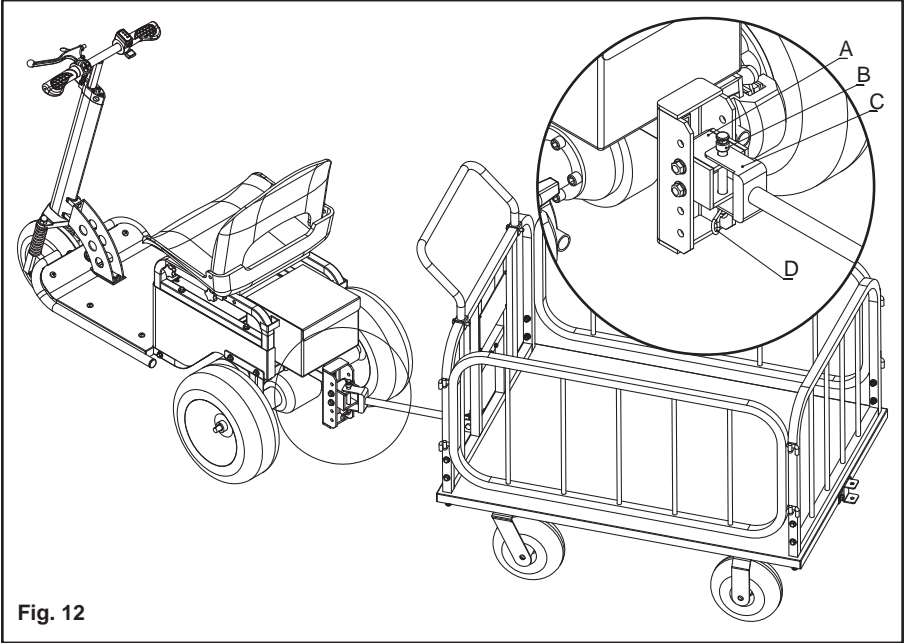

Fig. 12
**\* Tow Bar Connection (See Fig. 12)**